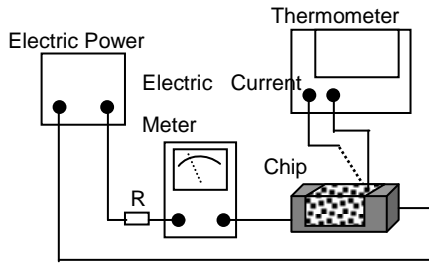

Fig. 5.3.3-1
- d. Definition of Rated Current ( $I_r$ ):  $I_r$  is direct electric current as chip surface temperature rose just  $20^{\circ}\text{C}$  against chip initial surface temperature ( $T_a$ ) (see **Fig. 5.3.3-2**)